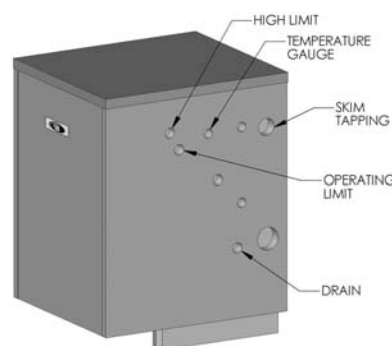

Figure 6.2 Water Boiler Tapping Locations
Install the 3/4" drain valve provided into the drain tapping on the right hand side of the boiler. Refer to Figure 6.2 for tapping location.
Install the pressure/temperature gauge (thermometer) supplied with the boiler into the 1/2" tapping located on the right side of the boiler. Refer to Figure 6.2 for tapping location.
- a. Install the operating limit control provided in the 3/4" tapping located on the right side of the boiler. Refer to Figure 6.2 for tapping location.
- b. (64-09 through 64-12) Install a high limit control in the 3/4" tapping located above the operating limit control. Refer to Figure 6.2 for location.